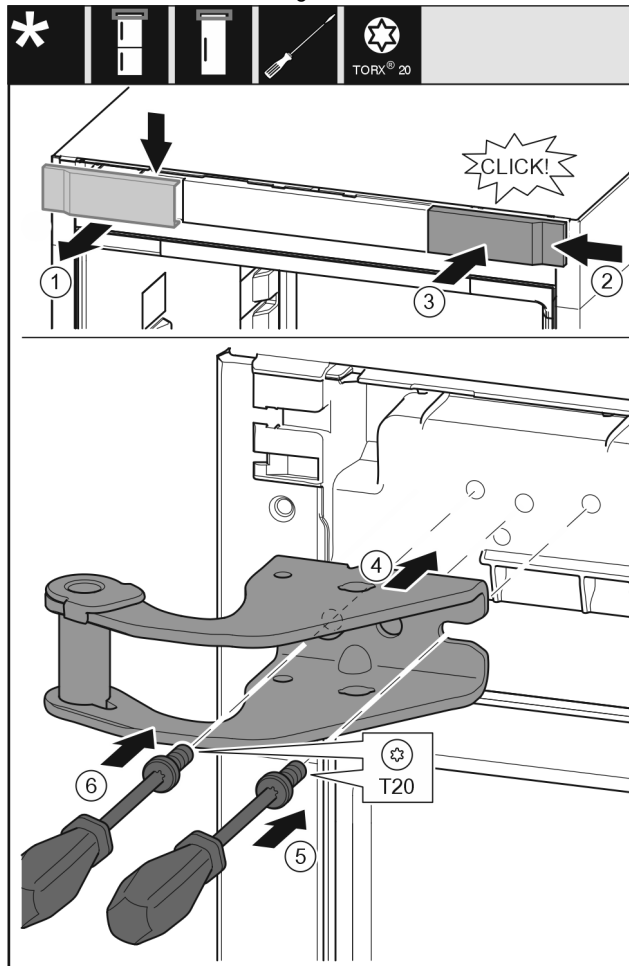

Fig. 15
- ▶ Take off the cover to the front from above. Fig. 15 (1)
- ▶ Rotate the cover 180° and clip onto the other side from the right. Fig. 15 (2)
- ▶ Latch the cover into place. Fig. 15 (3)
- ▶ Position the upper bearing bracket. Fig. 15 (4)
- ▶ Insert the screw with a T20 screwdriver and tighten it. Fig. 15 (5)
- ▶ Insert the screw with a T20 screwdriver and tighten it. Fig. 15 (6)